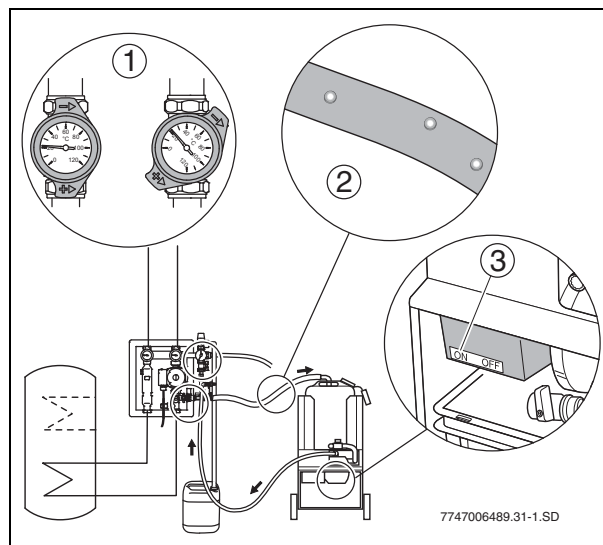

Fig. 24 Switching on the pump and checking for air bubbles
- Switch on the pump (→ Fig. 24, item 3).